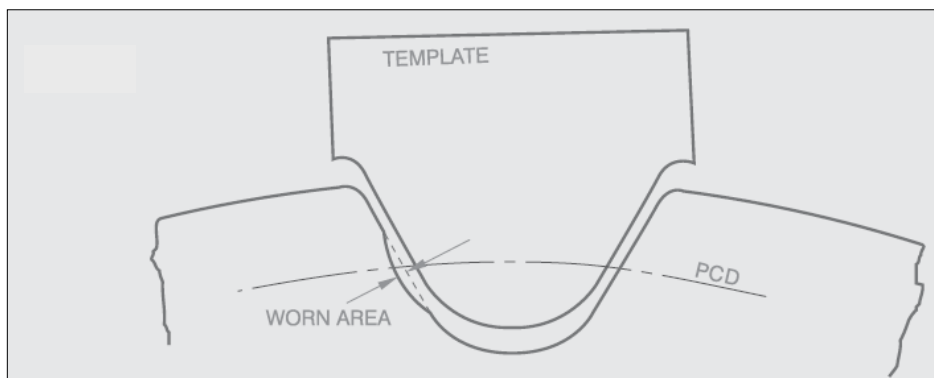

figure 7
- Clean the tooth gap of oil, grease or any other matter and apply to the tooth gap an "as new" template. (figure 7).